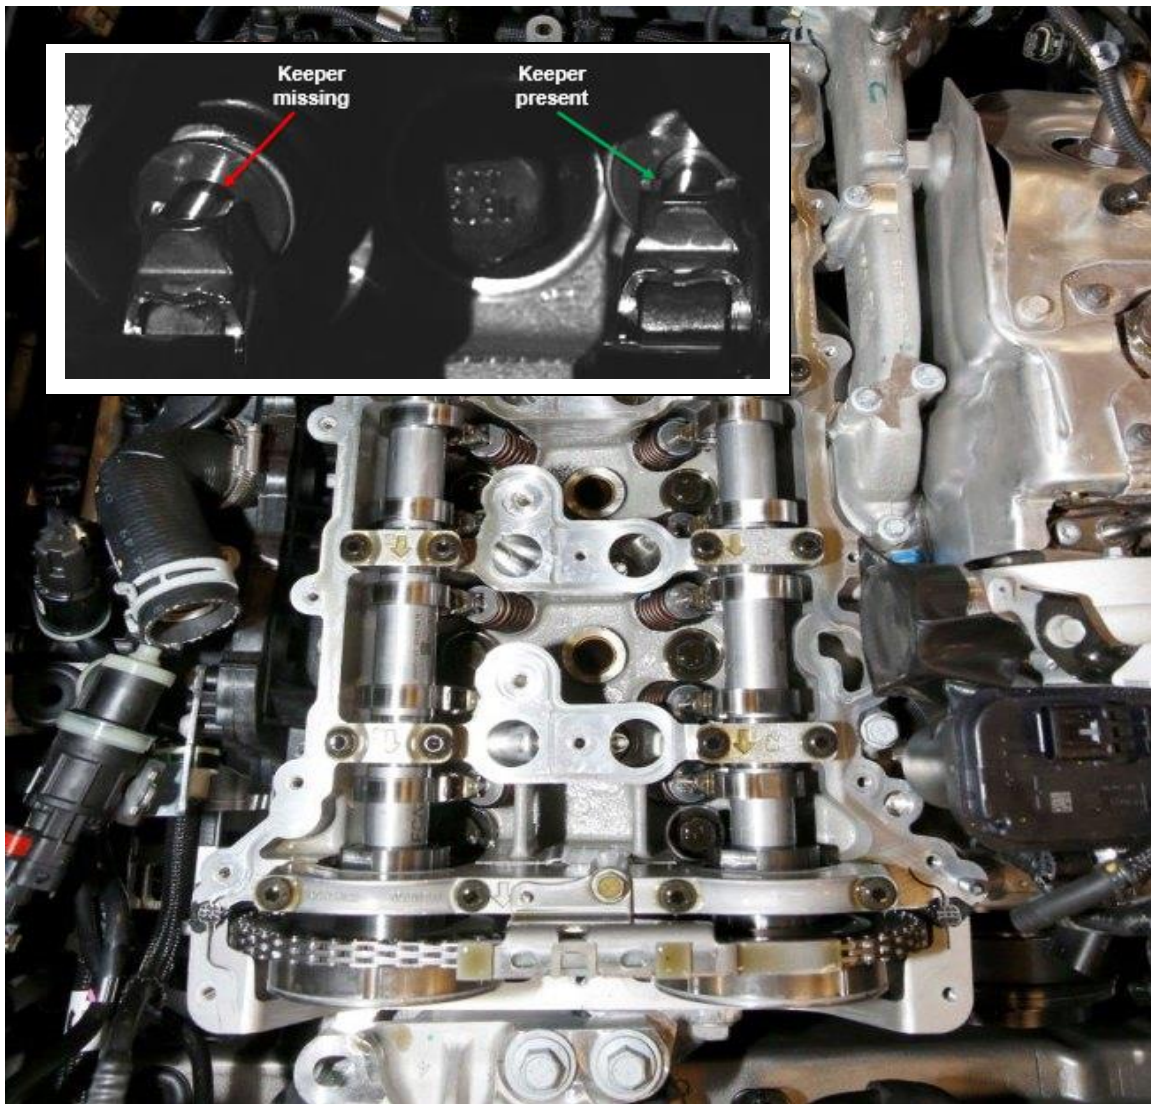

Figure 15 – Valve Stem Keeper Inspection
45. Visually inspect **ALL** valve springs for stem keeper presence (Figure 15).